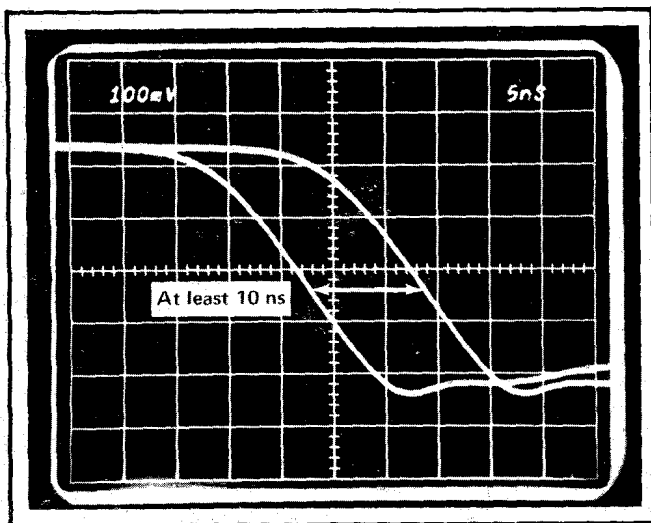

Fig. 6-9. Delay control range check.
e. Turn the 7S11 DELAY control fully counterclockwise and check that the falling portion moves to the right at least 10 ns. See Fig. 6-9.